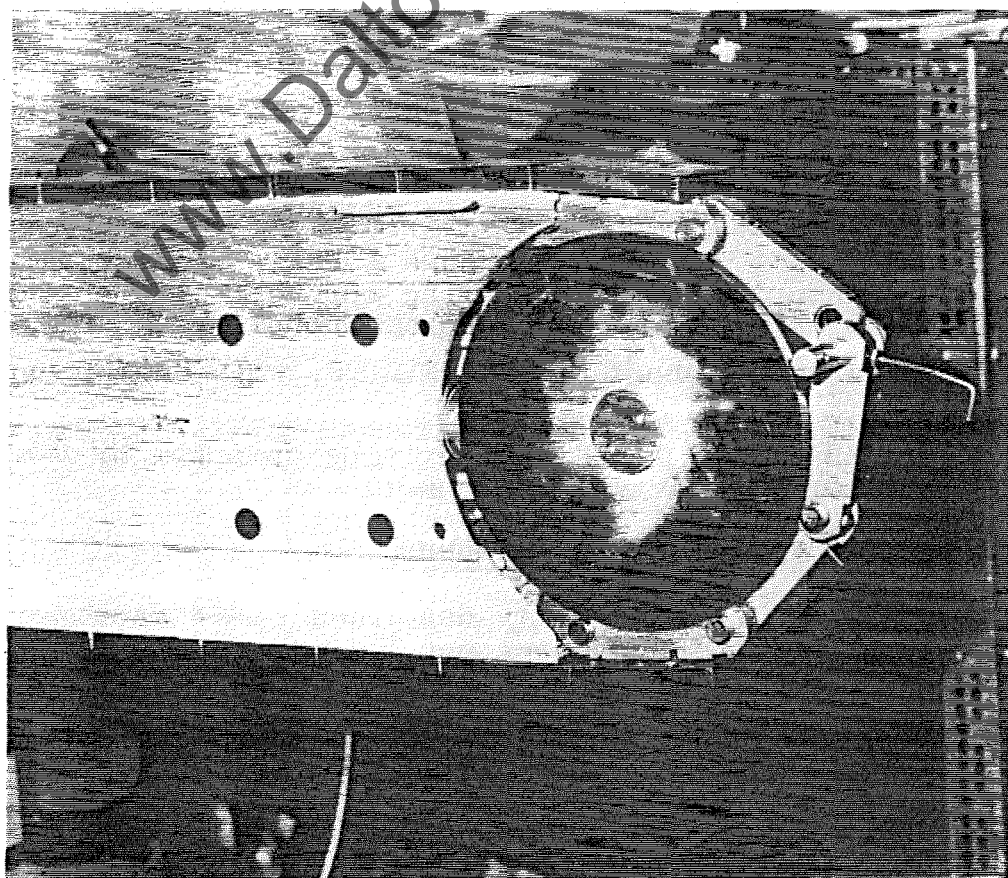

FIG. 10
- 3 Complete chain track as shown FIG.10.